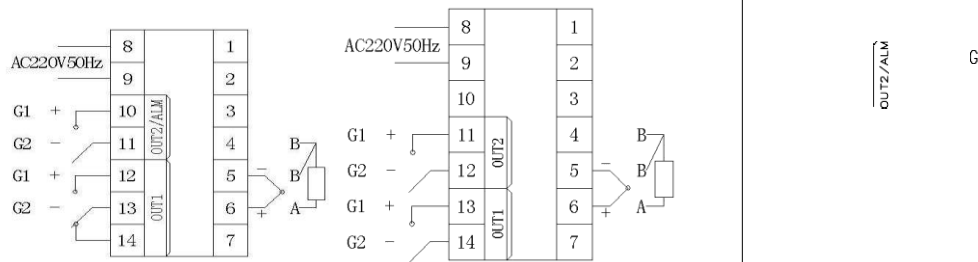

Figure1
2. In figure 1 and 3, OUT1 is main output. If it is AC 30A/220V, there is only one pair of normally open contacts; OUT2 is usually for alarm or refrigeration